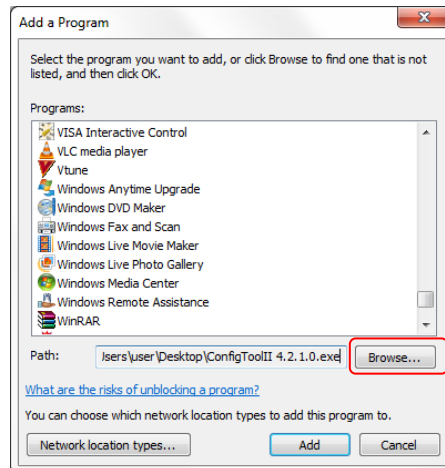

Figure 6 - Browsing for executable to add
- Click the “Browse...” button. Refer to Figure 6.